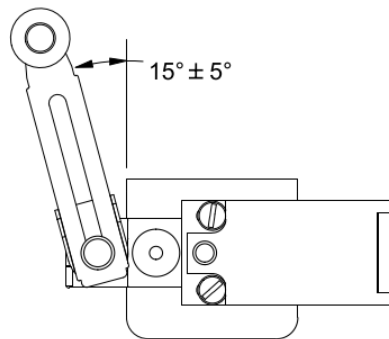

Figure 3
- Orient the Switch Activation Lever to its fullest extent and the Lever at 15°. See Figure 3.